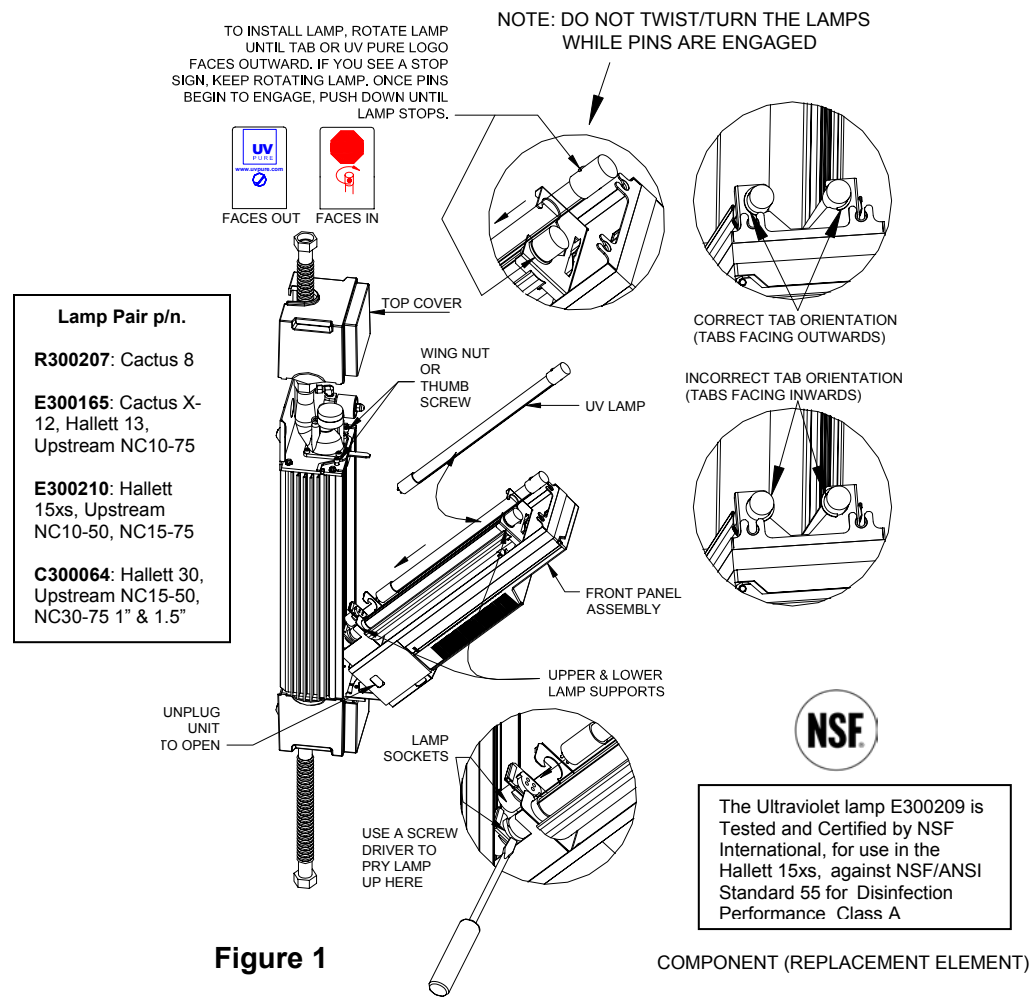

Figure 1
The lamps can be replaced in a few minutes. Draining the unit is not required. See Figure 1.
Step 4: Install the new lamps into the unit, being careful not to touch the bulb. **Ensure that the lamps are aligned with the tab facing the outside of the system (left or right side of the system), or, if the lamps have a “stop sign” printed on the top ceramic, ensure that the “stop sign” is facing toward the middle/center of the system. (If you cannot see the stop sign, the position of the lamp is correct; if you CAN see the stop sign, the lamp is backward. Spin the lamp 180 degrees so that you cannot see the stop sign. (See Figure 1))** Once the pins of the lamp begin to engage into the lamp socket, push firmly down on the top of the lamp. **Do not twist the lamps when they are installed.** The lamp will come to rest when the lamp pins are fully inserted into the socket. When pressing down, be sure to position the lamp ceramic end in the centre of the hole in the lamp holders. Repeat for the other side.